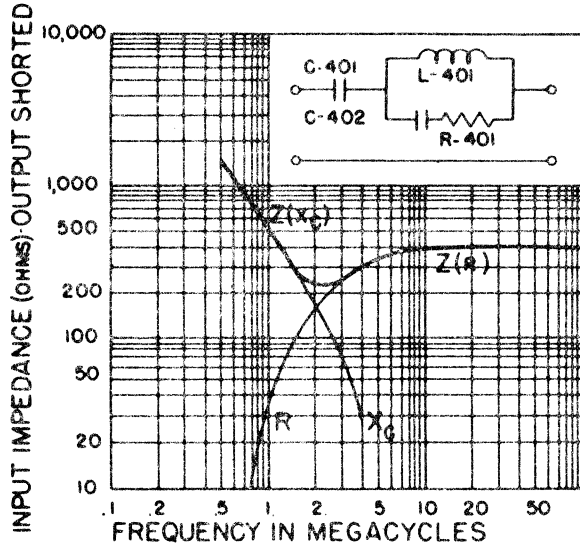

Figure 4-3. Schematic Diagram of the Antenna Simulator SM-35/URM-25 with Input Impedance-Frequency Curve
(See figure 4-3).
c. It can be seen from figure 4-3 that the minimum impedance of the antenna simulator will be approximately 220 ohms at 2 megacycles. This impedance becomes extremely high at lower frequencies and approaches 400 ohms at higher frequencies. In using the meter (M-101) of the signal generator it should be realized that a 20 percent maximum error may be introduced at 2 megacycles. If greater meter accuracy is required when using the antenna simulator, the actual impedance of this unit should be calculated from figure 4-3 at the frequency selected.
Figure 4-3 in this section is the same as figure 2-16 in section 2 but has been repeated here to assist the operator in applying the procedures herein outlined for use of the antenna simulator.